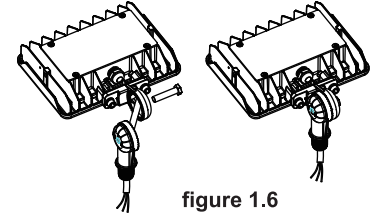

figure 1.6
- Step 4: Pass the wire through from the other bracket and fix it with screws.(Watch out not to scratch the wire) (figure 1.6)